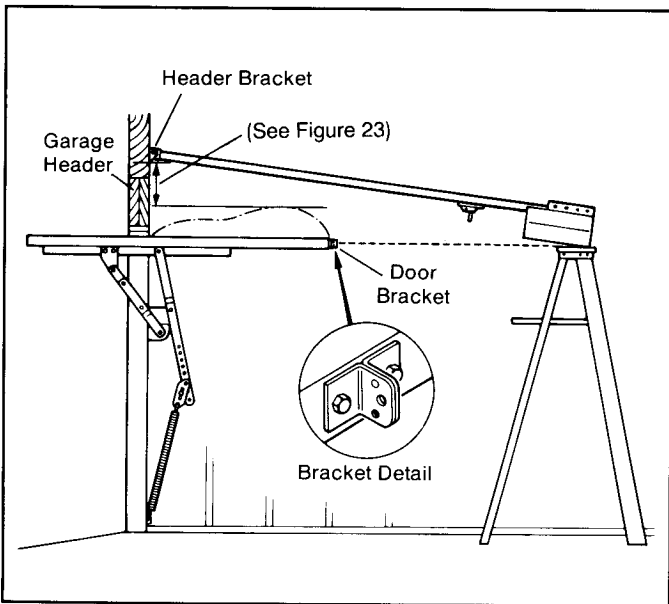

Figure 24. Positioning Power Head.
Step 6: Raise power head end of operator until high-rise point of door clears channel assembly by at least one inch, or until the power head is level with the top edge of the door when it is in the open position. (See Figure 24). Temporarily maintain that position (on a ladder for example) until the strap hangers on the operator head are permanently mounted.
The door bracket and door arm assemblies for trackless doors are shown in Figures 24, 25, and 26.